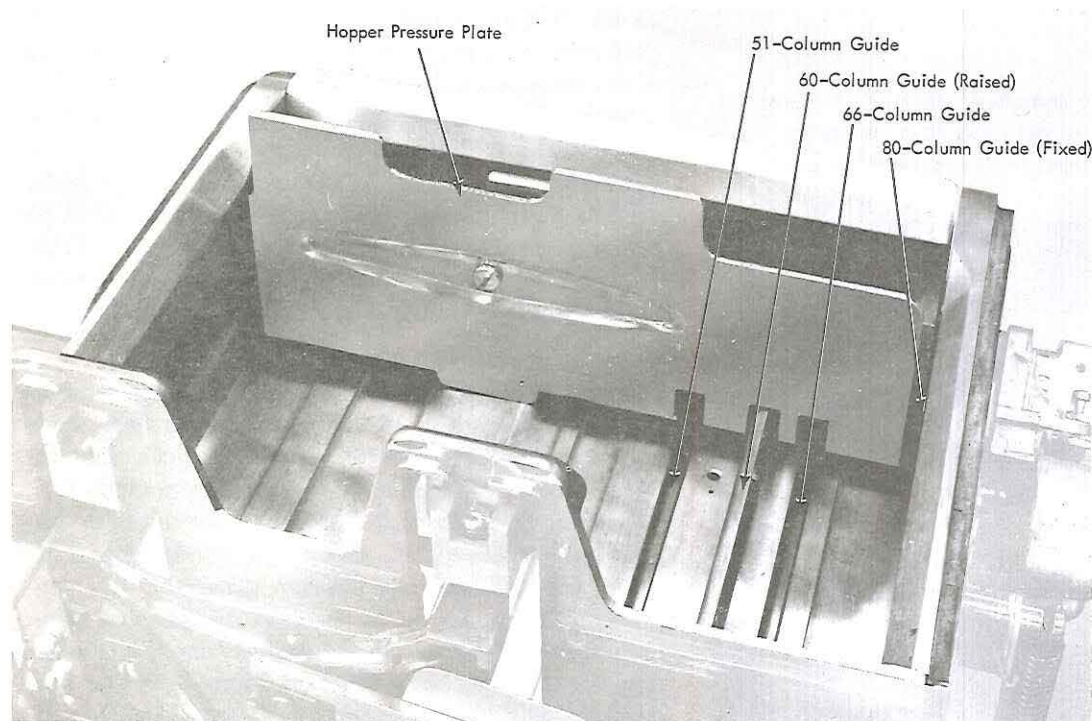

Figure 16. Hopper Card Guides
1. Select the proper card guide in the hopper and lift it forward into position. For any selected card length, all card guides for cards of shorter length must rest in the hopper bed (Figure 16). Note that the